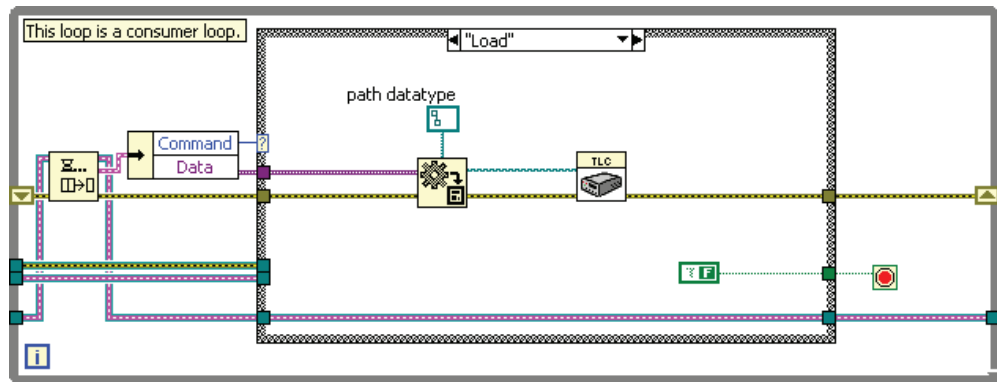

Figure 7-27. Load Function
3. Complete the Load case of the consumer loop in the TLC Main VI, as shown in Figure 7-27. Use the following items: